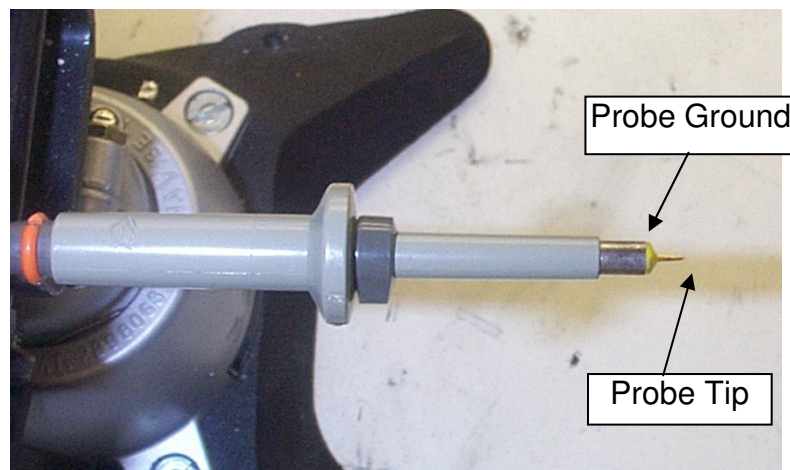

Figure 21 – Oscilloscope Probe Prepared for Ripple Measurement. (End Cap and Ground Lead Removed).
Tie two capacitors in parallel across the probe tip of a 4987BA probe adapter. The capacitors include one (1) 0.1 μF /50 V ceramic type and one (1) 1.0 μF /50 V aluminum electrolytic. The aluminum-electrolytic capacitor is polarized, so always maintain proper polarity across DC outputs (see Figure 21 and Figure 22).